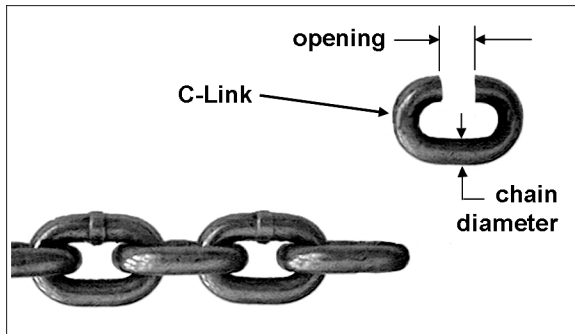

Figure 11
2. Cut the weld from the link leaving an opening approximately 1.25 times the diameter of the link material. See Figure 11.